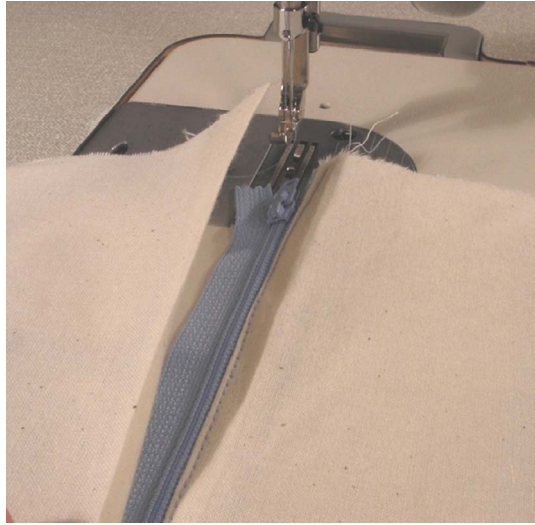

Figure 24
5. Fold the zip guard back and pin it, to prevent it from getting caught in this next row of stitching. Continuing to work on the right side of the garment, fold the seam allowance on the other side, moving it over to overlap the zip just enough to cover the zip teeth. Sew using the Lockstitch (301), back-tacking at the beginning and end of the seam (see Figures 24 and 25).